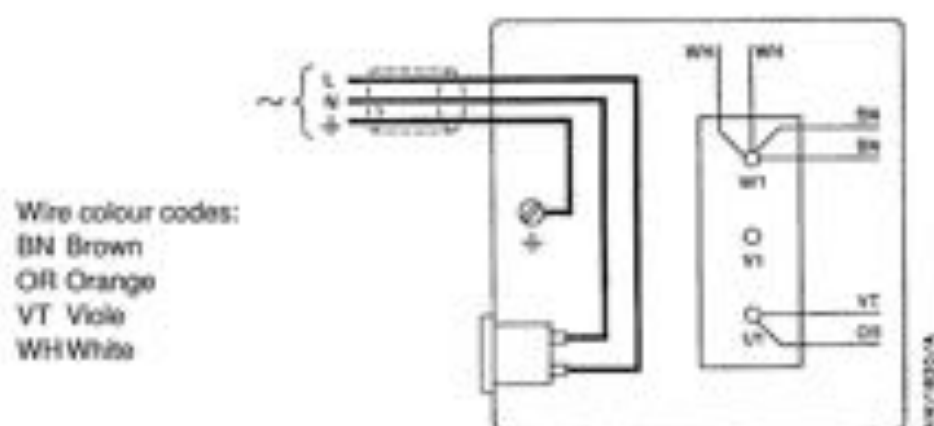

Figure 10 - Electrical supply connection, single-phase motors, (low voltage)
If the electrical connection diagram for your pump is Figure 10 or 11, use this method to connect the electrical supply cable.
8. Connect the electrical supply cable to the appropriate terminals as shown in Figures 10 to 11.